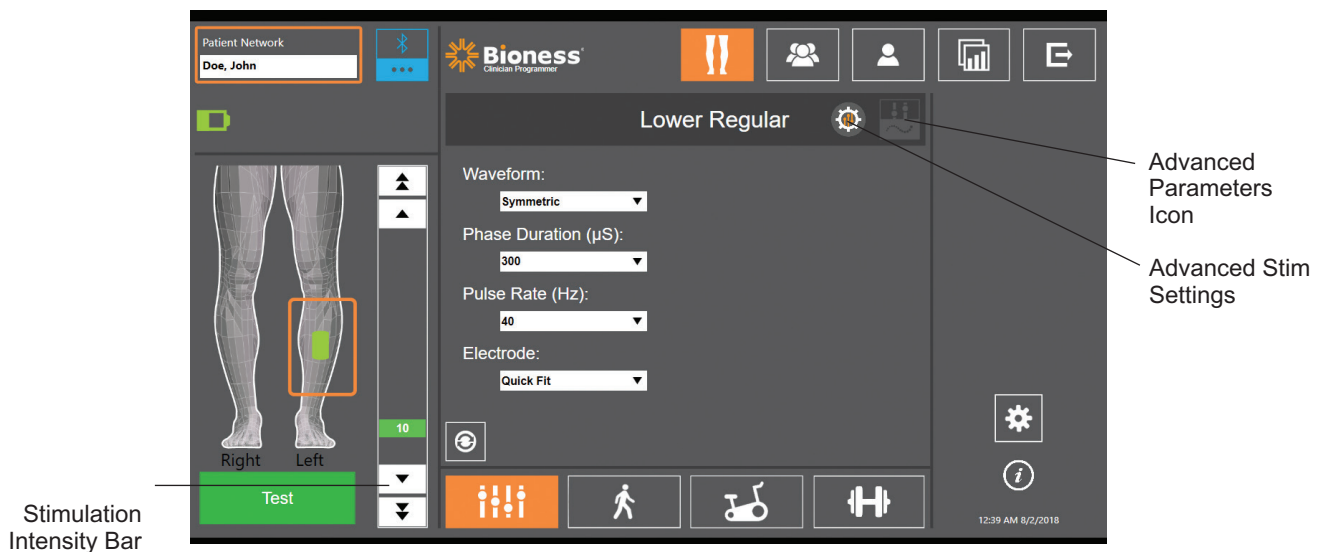
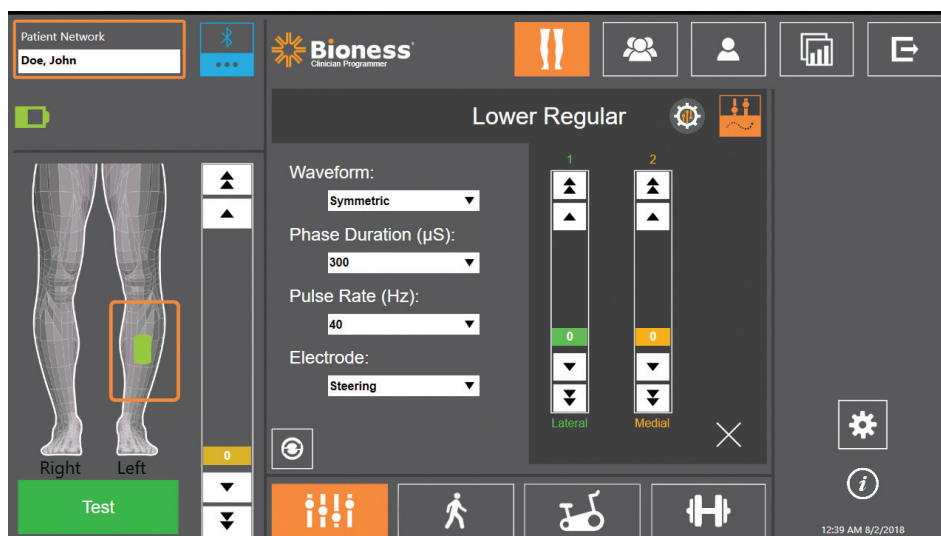

Figure 9-3: Programming Stimulation, Parameter Screen
Figure 9-5: Programming Stimulation, Parameter Screen with Advanced Parameter Window
3. The screen will show the linked EPG(s) as a green icon on the diagram located on the left side of the Parameter Screen. See Figure 9-3.
6. For new patients, make sure the Stimulation Intensity Bar is set to 0. See Figure 9-3.
- From the Parameter Screen, press the Advanced Stim Setting icon to open the Advanced Stim Settings Window. See Figure 9-3 and Figure 9-4.
If the patient is using the Steering Electrode make sure the Electrode drop down menu is set to Steering Electrode, this will enable the Advanced Parameters icon. Press the Advanced Parameter icon to open the advanced parameter window. See Figure 9-3. The clinician can then adjust the medial and lateral stimulation intensity for the Lower Leg EPG. See Figure 9-5.